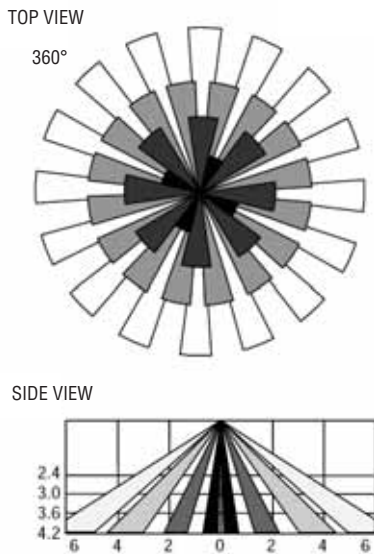

Figure 1a
- Determine the location of the sensor according to the detection pattern shown in Figure 1a.